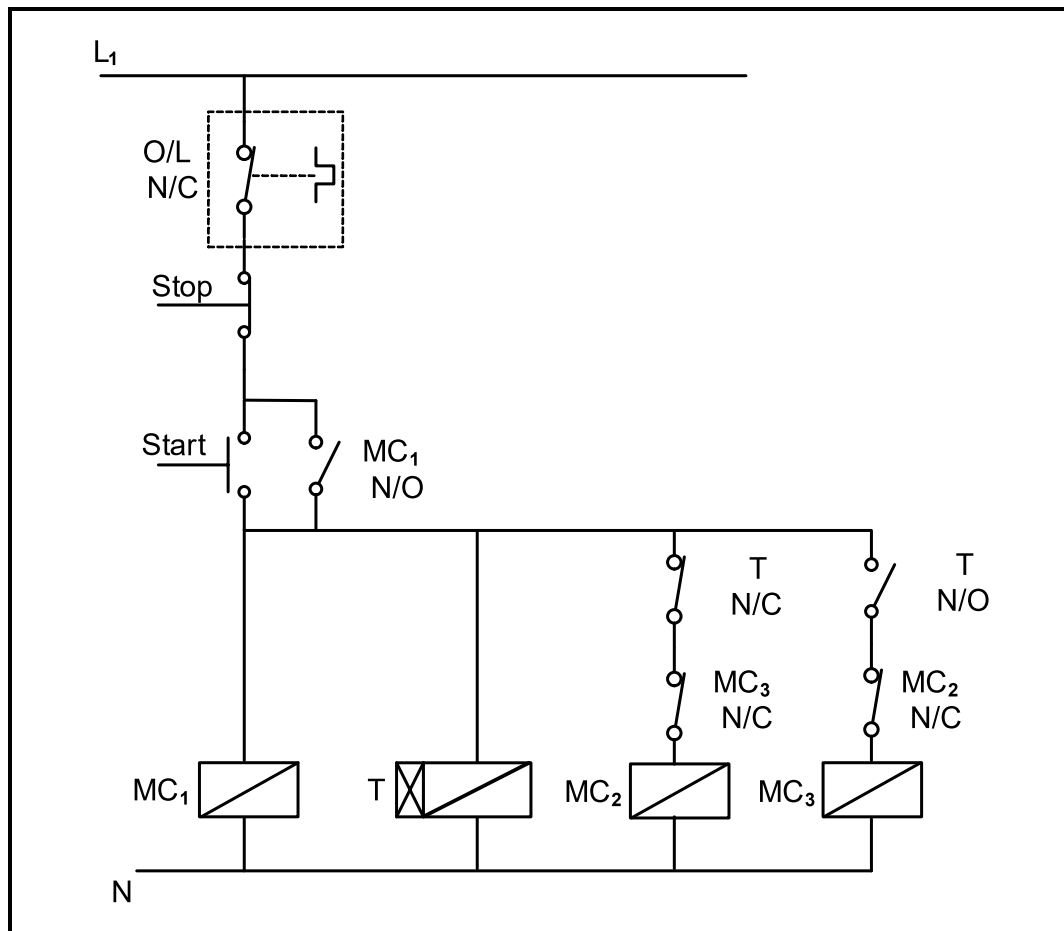

FIGURE 6.4: AUTOMATIC STAR-DELTA CONTROL CIRCUIT
- 6.4 FIGURE 6.4 below shows the control circuit of an automatic star-delta motor starter with contactor T set to 5 seconds. Answer the questions that follow.